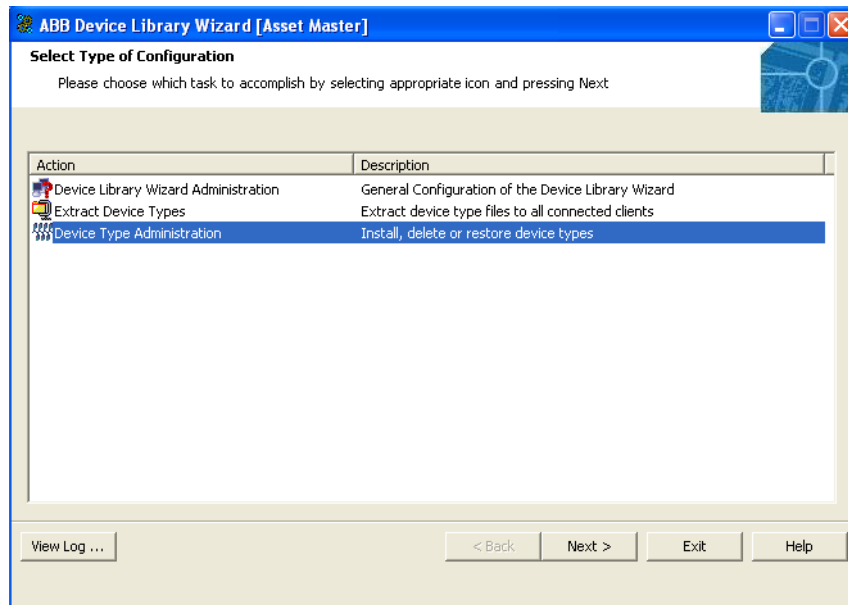

Figure 106. Device Type Administration
2. Select **Asset Master System** and click **OK**. A screen, similar to the one shown in Figure 106 is displayed.